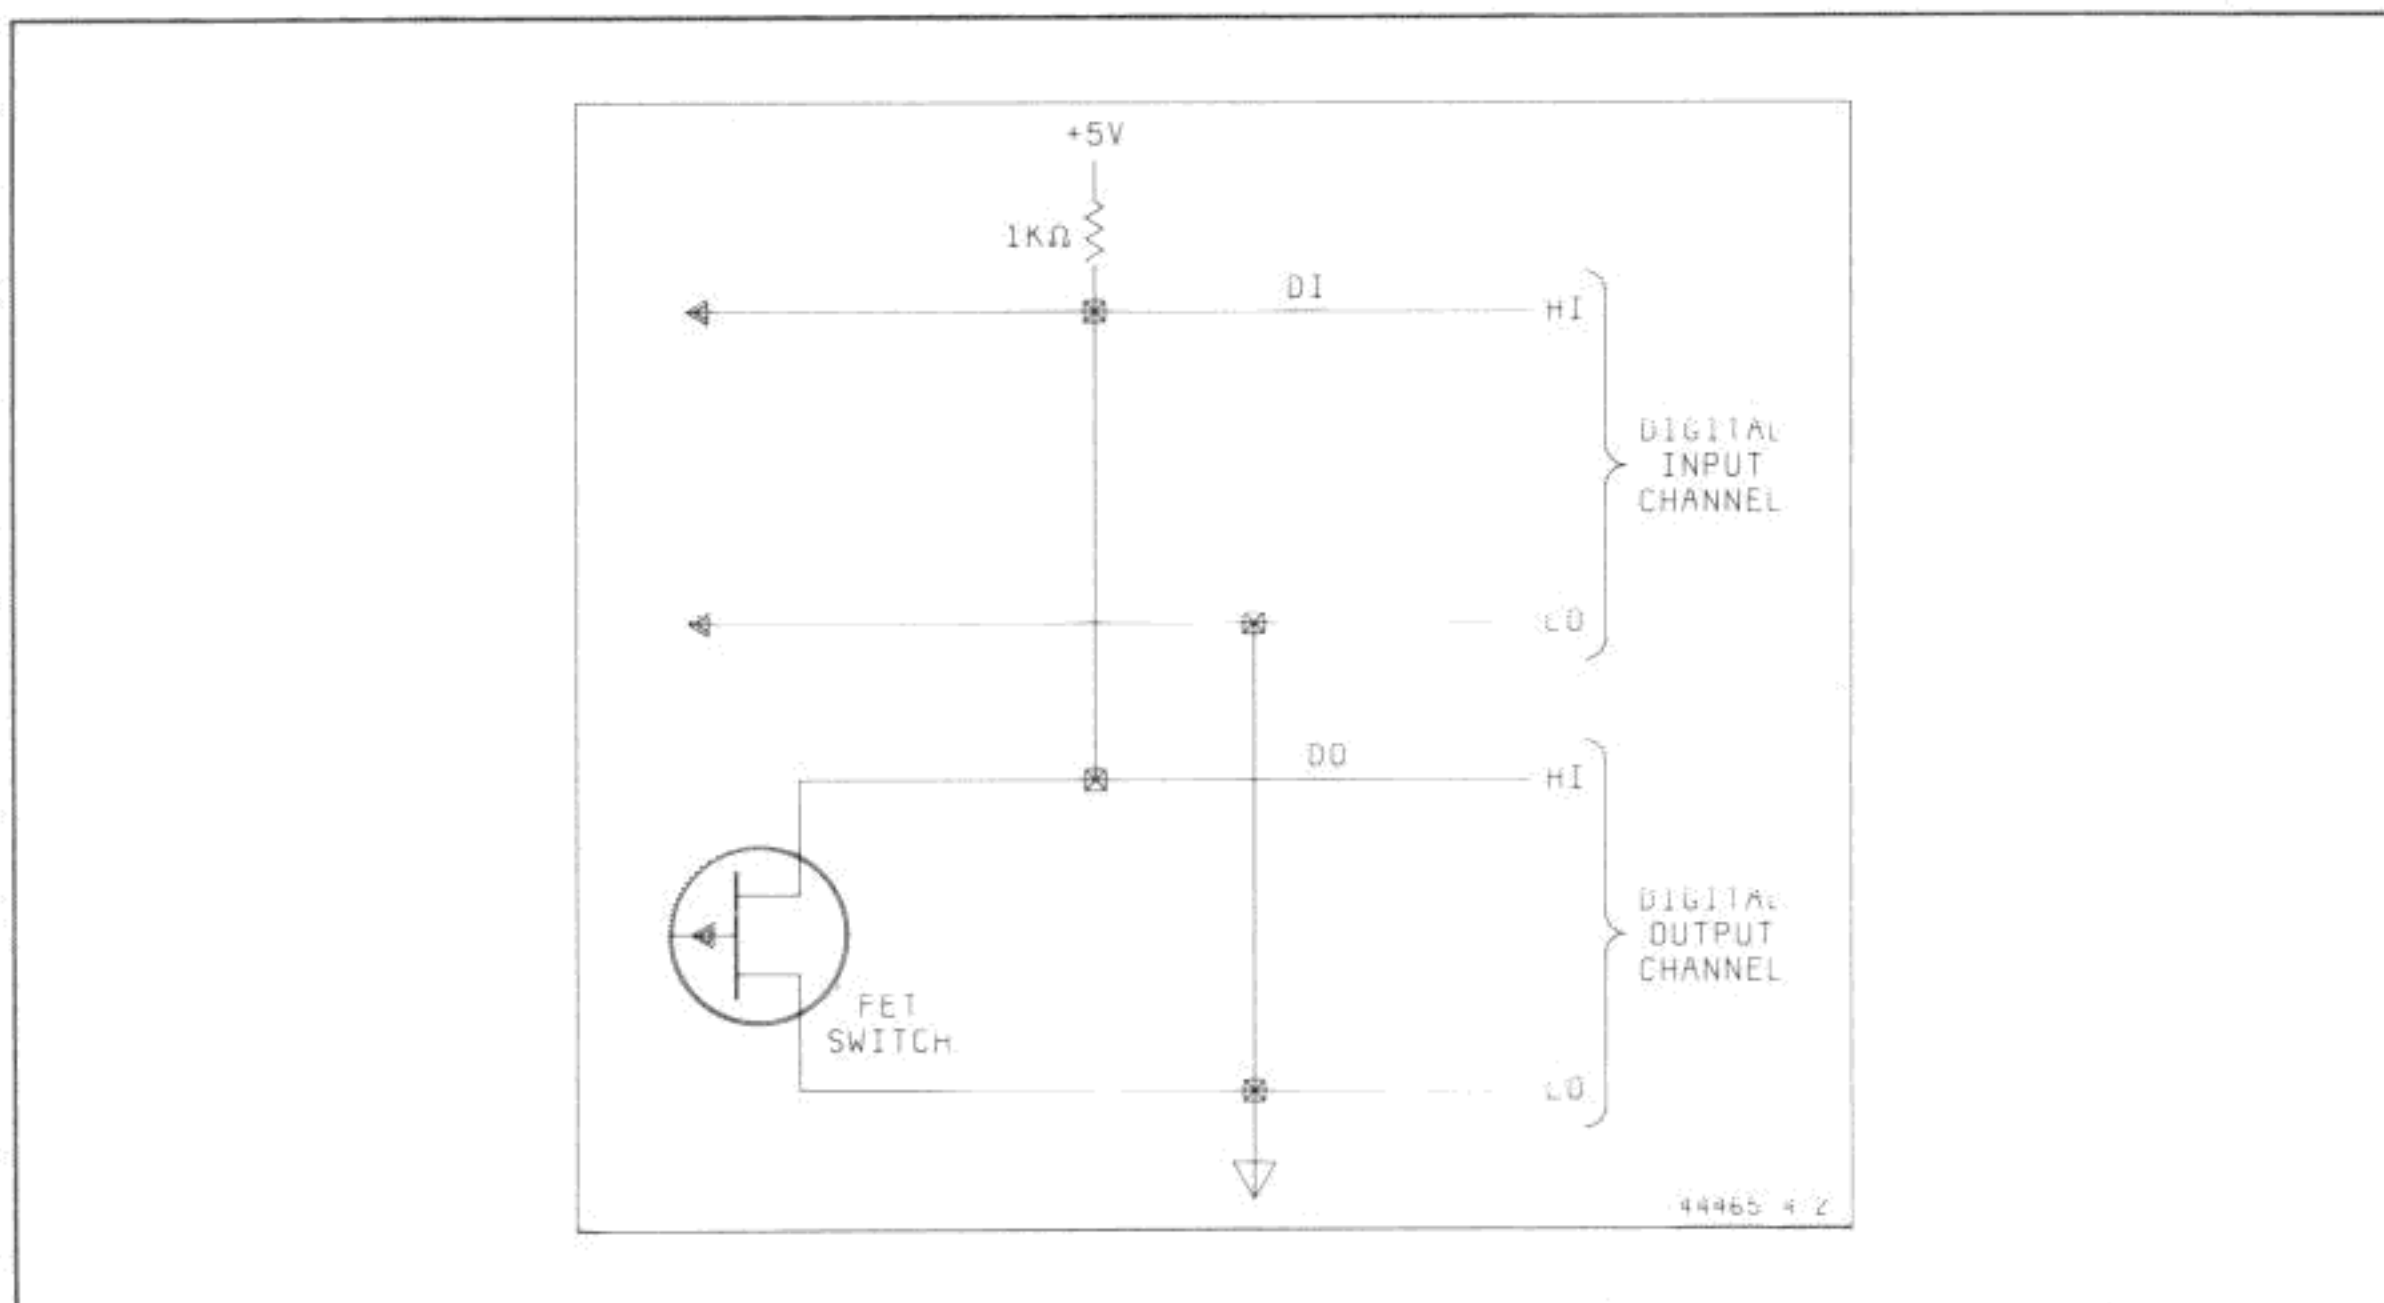

Figure 3-4-2. Bit Configuration Schematic
f. Digital output bit 0 is now wired to digital input bit 0 as shown in Figure 3-4-2. Since the FET switch has a very low on resistance, the input bit should be a “0” when the output bit is closed (i.e., the FET switch is on). When the output bit is opened (the FET switch is off), the input bit should be a “1”.